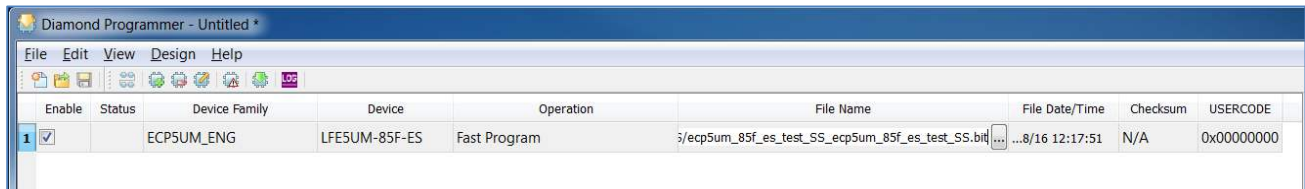

Figure 5.7. Bit File Selection
6. The selected file is shown under **File Name** in the Diamond Programmer main interface as shown in Figure 5.7.